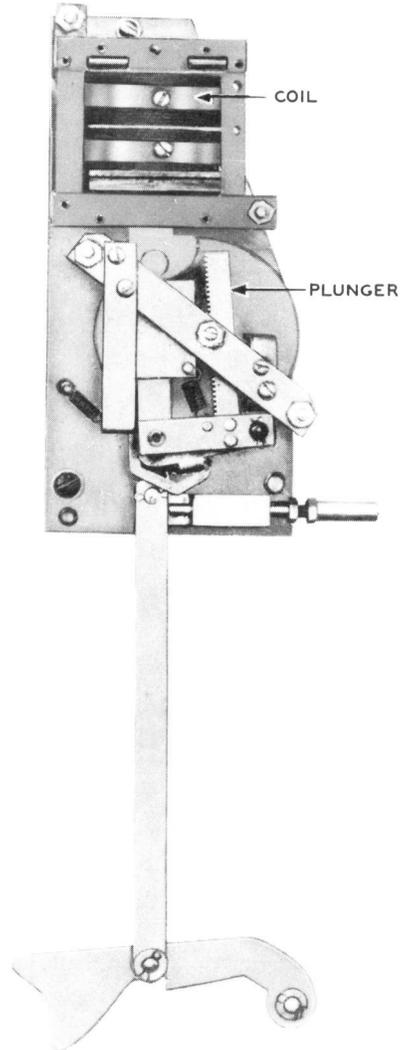

Fig. 14 - Solenoid-type Undervoltage Release - With Time-delay Feature on Form K33 Starter
3.23 To replace the undervoltage release coil on the form K33 starter shown in Fig. 14, note the position of the coil leads and disconnect the leads after loosening the coil terminal screws. Remove the two nuts that fasten the magnet frame to the base. Release the retaining springs which hold the coil in the magnet frame. Remove the magnet frame. Slide the plunger out of the coil. Pull out the coil. Insert a new coil and reassemble in the reverse order.
7. To add new Fig. 14 for the solenoid-type undervoltage release with time-delay feature on form K33 starter.